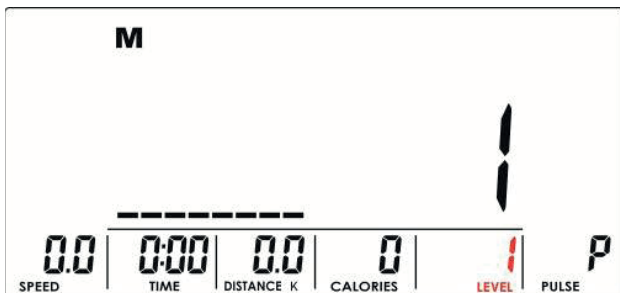

Fig. 10
2. Set the resistance level with the jog dial (fig. 10) and confirm with MODE. The default value is 1.